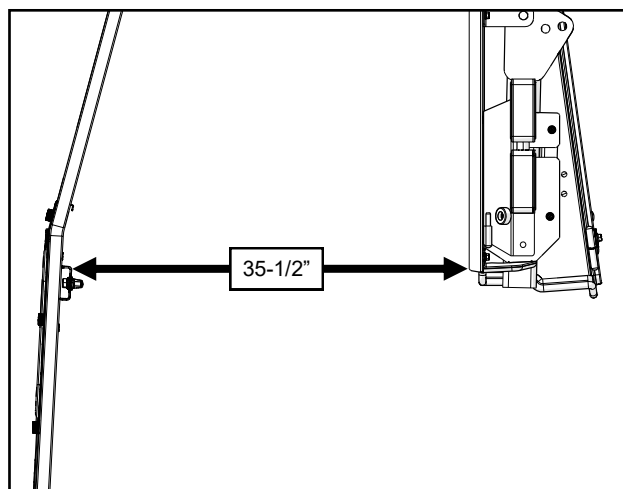

Fig. 12.2 (Align A-Pillar and Rear Legs)
12.2 Measure the distance from the striker bracket to the front edge of the rear legs as shown in figure 12.2. Adjust the A-pillars, rear legs, and ROPS brackets to get as close to 35-1/2" as possible.